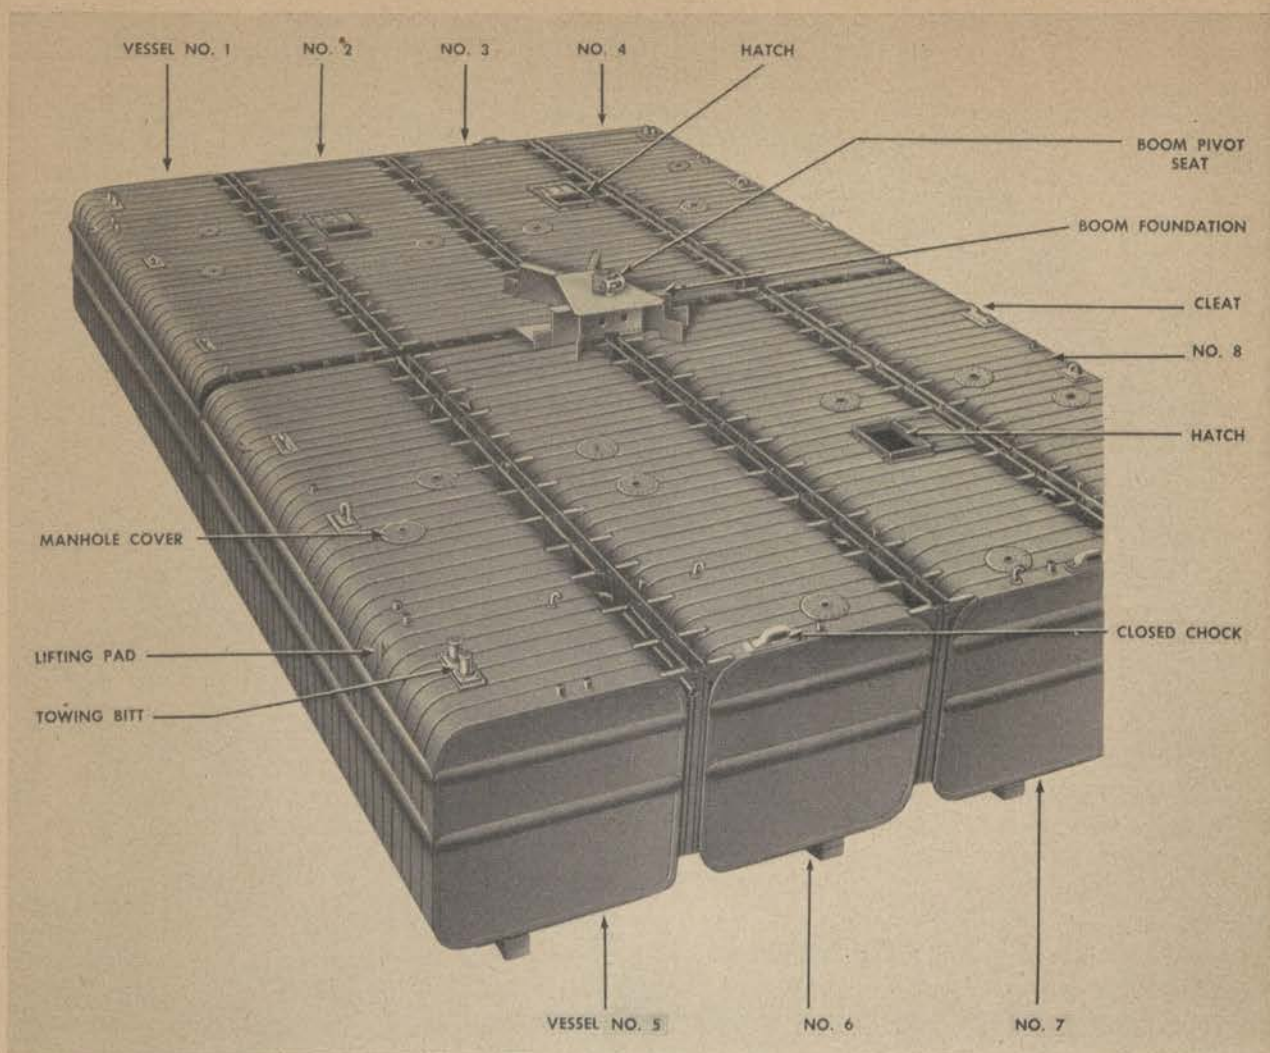

Figure 19. Barge sections assembled, boom foundation in position.
h. BARGE ERECTION PROCEDURE. (1) The vessels may be assembled either on land or in water. If assembled on land, prepare ways suitable for launching the complete barge as described in *c* above. The barge is assembled from eight barge sections, or vessels, numbered 1 to 8, inclusive. While it is not important which sections are assembled first, it is necessary that the numbered sections be correctly joined in the arrangement indicated on figure 19. The following sequence is recommended: